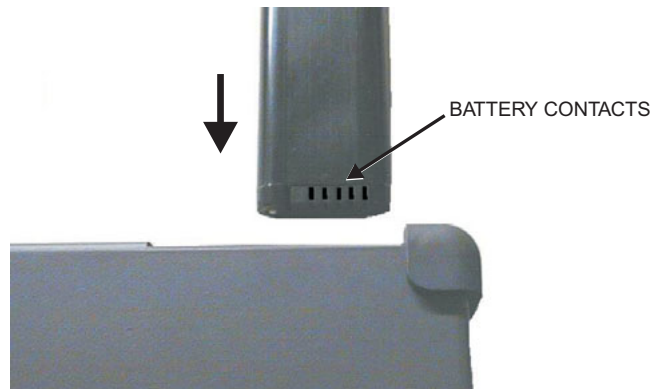

Figure 12. Battery Orientation
4. Grasp the battery lanyard and pull the battery straight up and out of the unit, as illustrated in Figure 12.